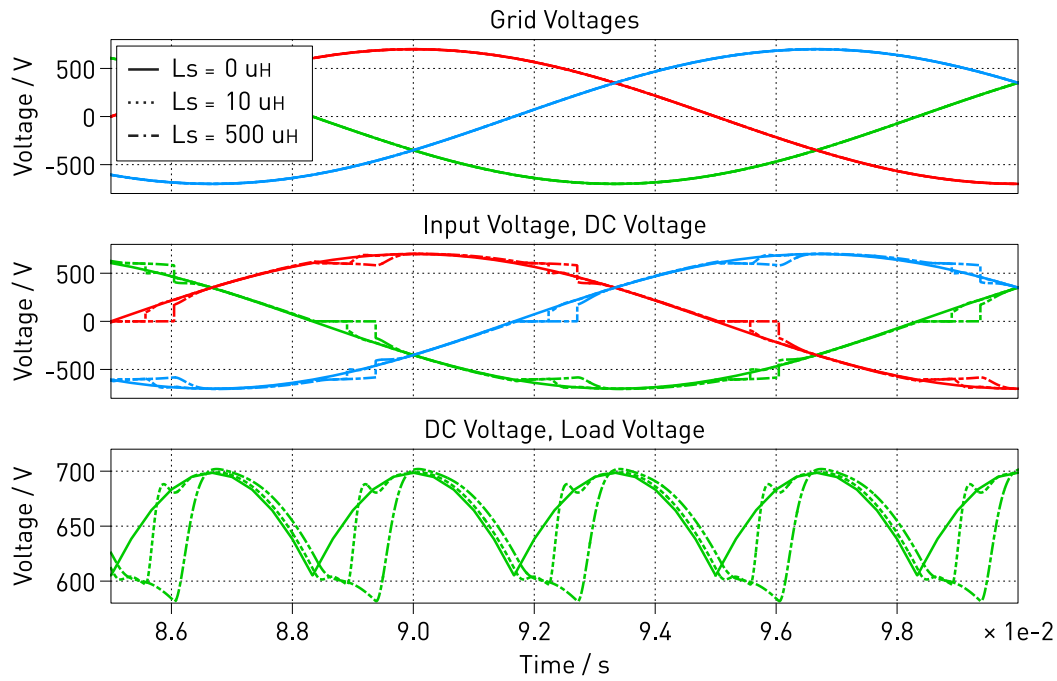

Fig. 2: Results of the simulation showing the commutation interval for a finite line inductance
- Run a simulation with the default line inductance $L_s = 100 \mu\text{H}$ and observe the commutation interval in the rectifier input voltage. During the commutation interval the rectifier input voltage stays zero which leads to a lower average V_{dc} . This can be seen in Fig. 2 that shows the different system quantities for line inductance values of $L_s = \{0, 30, 100\} \mu\text{H}$.